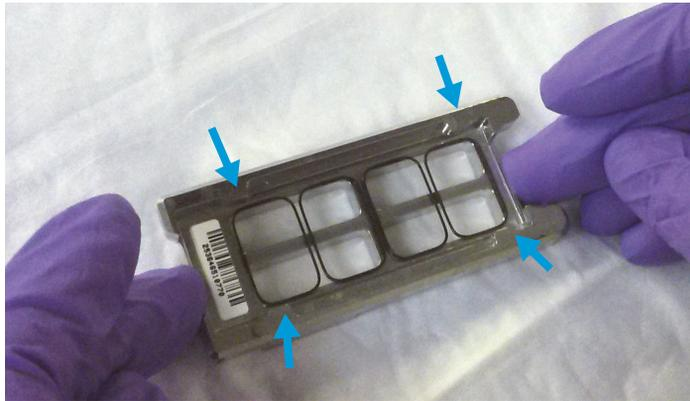

Figure 8. Chamber base with gasket and microarray slide applied, guide posts denoted with arrows
- 2 Use the four chamber base guideposts and rectangular end of the base to position the microarray slide as you lower it to within 3 mm (1/8") above the gasket slide, making sure the microarray slide is not tilted with respect to the gasket slide. Barcode ends of both the gasket slide and the microarray slide must line up at the corners of the chamber base. Once positioned, gently rest the microarray slide on the lower gasket slide. Refer to **Figure 8** for proper technique on holding the microarray slide with both hands.